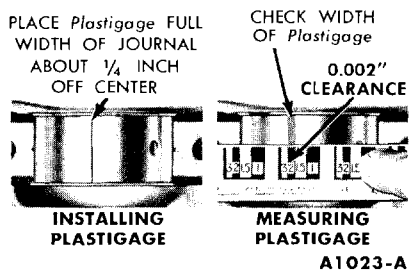

FIG. 26—Installing and Measuring Plastigage—Engine on Work Stand
3. Place a piece of Plastigage on the crankshaft journal the full width of the journal and about 1/4 inch off center (Fig. 26).